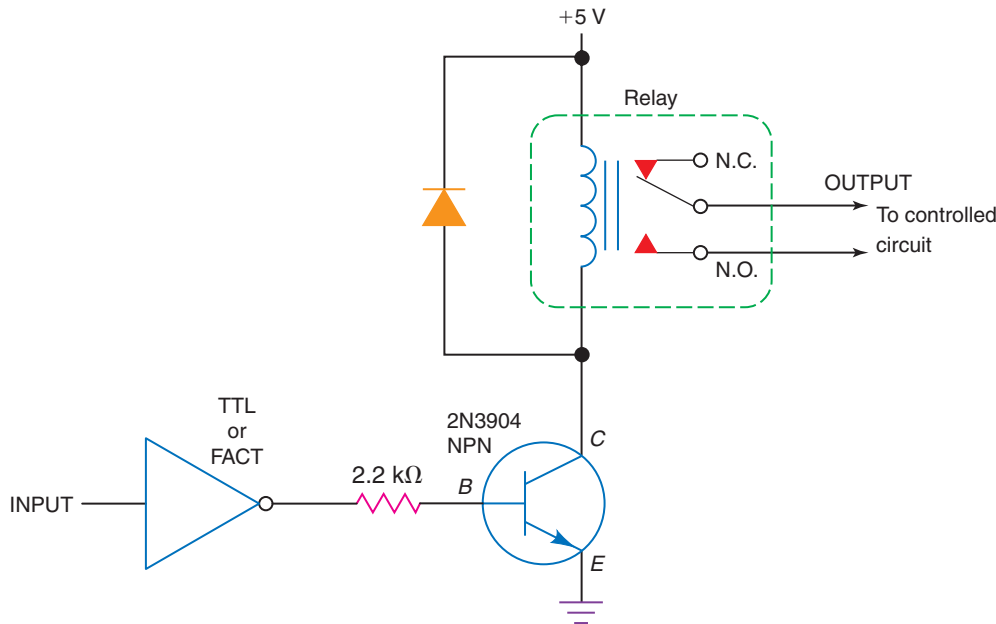

Fig. 5-25 TTL or CMOS interfaced with a relay using a transistor driver circuit.
A *relay* is an excellent method of isolating a logic device from a high-voltage circuit. Figure 5-25 shows how a TTL or CMOS inverter could be interfaced with a relay. When the output of the inverter goes HIGH, the transistor is turned on and the relay is activated. When activated, the normally open (NO) contacts of the relay close as the armature clicks downward. When the output of the inverter in Fig. 5-25 goes LOW, the transistor stops conducting and the relay is deactivated. The armature springs upward to its normally closed (NC) position. The *clamp diode* across the relay coil prevents voltage spikes which might be induced in the system.
47. Refer to Fig. 5-25. The purpose of the diode across the coil of the relay is to suppress _____ (sound, transient voltages) induced in the circuit.